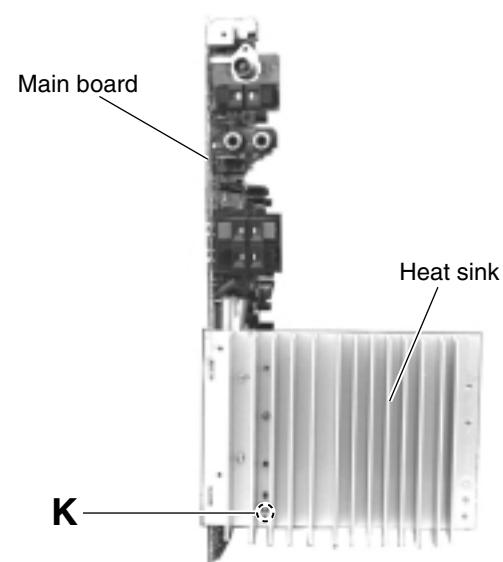

Fig.20
■ Removing the heat sink (See Fig.20 and 21)